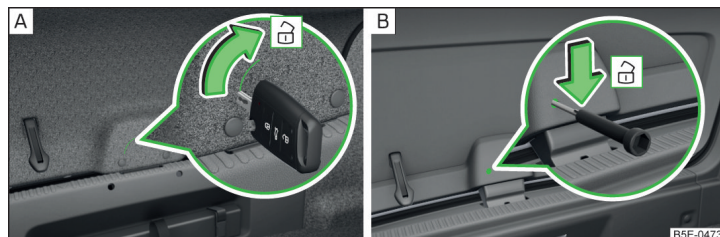

Fig. 210 Emergency unlocking: Version 1/version 2
- Insert a screwdriver or similar tool into the opening in the trim » Fig. 210 - **A** as far as the stop.
- Insert a screwdriver or similar tool into the opening in the trim » Fig. 210 - **B** as far as the stop.